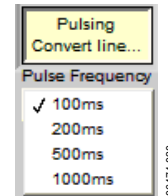

Figure 31. Pulse Frequency Selection Menu
- Once the **Pulse Convert line** button is pressed, a drop-down menu appears as shown in Figure 31. You can choose from one of four pulse frequencies. The four conversion frequencies to choose from are once every 100 ms, 200 ms, 500 ms, or 1000 ms.